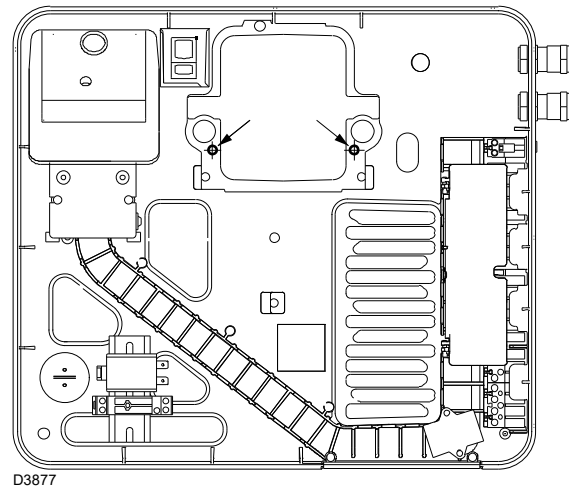
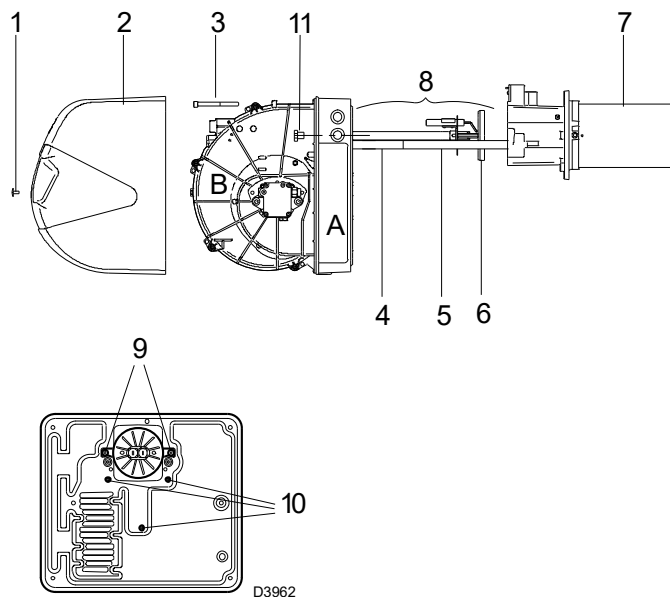

Fig. 29
Fig. 31
If it is necessary to maintain the electrical panel A)(Fig. 31) it is possible just to remove the fan assembly B)(Fig. 31) to get better access to the electrical components.
With the burner open as in Fig. 31, disconnect the electrode cables and remove the head unit 8)(Fig. 31) by undoing the two screws 9)(Fig. 31).
Disconnect the cables relative to the fan motor, remove the 3 screws 10)(Fig. 31) on the protective sheet and the two screws 11)(Fig. 31) and slide out the fan assembly B)(Fig. 31) from the guides 4) - 5)(Fig. 31).
Finally it is possible to use 2 of the 3 screws 10)(Fig. 31) to fix the electrical panel to the pipe coupling in the points indicated on Fig. 29, and then perform the maintenance operations.
- Remove screw 1)(Fig. 31) and withdraw the casing 2);